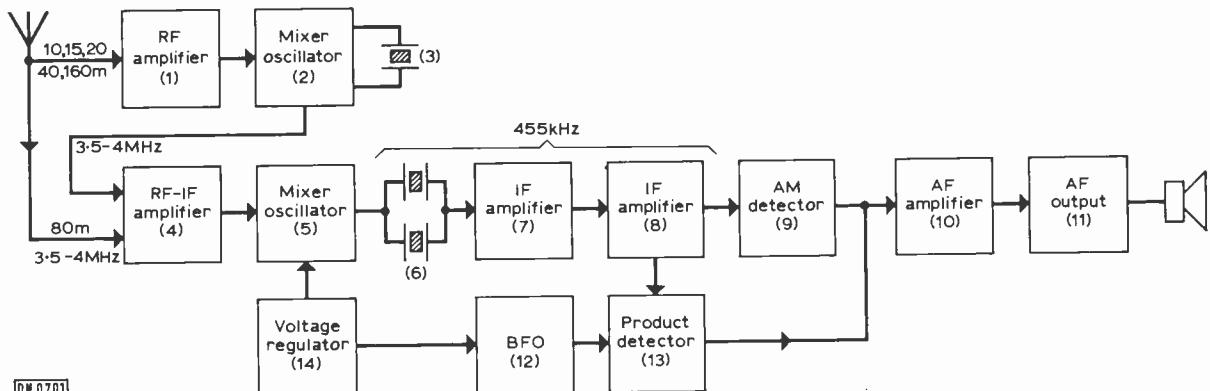

Fig. 1 : Block diagram to illustrate the function of each stage in a double conversion communications receiver.
Those who may not be familiar with the method of operation of this type of receiver should find the block diagram of Fig. 1 helpful in conjunction with the description that follows.
Referring to Fig. 1 stage (1) is an r.f. amplifier followed by the first mixer (2) both working on all bands except 80m. Each Amateur band, except 80m, employs a crystal (3) chosen so that the output of the mixer (2) falls in the range 3.5 to 4MHz whatever the band in use. This tuning range 3.5 to 4MHz is covered by the tunable r.f./i.f. amplifier (4) and is followed by the second mixer and tunable oscillator (5) forming the tunable i.f. part of the receiver on all bands, except 80m. On 80m signals fall in the range 3.5 to 4MHz and are switched to stage (4).